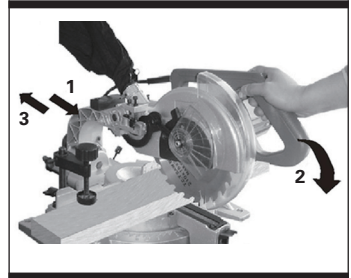

Fig 13
#### 4. CROSS PULL CUT (Fig13)
6. When cutting is finished release the trigger switch and allow the blade to stop rotating before lifting the saw head up away from the workpiece. See Fig13.